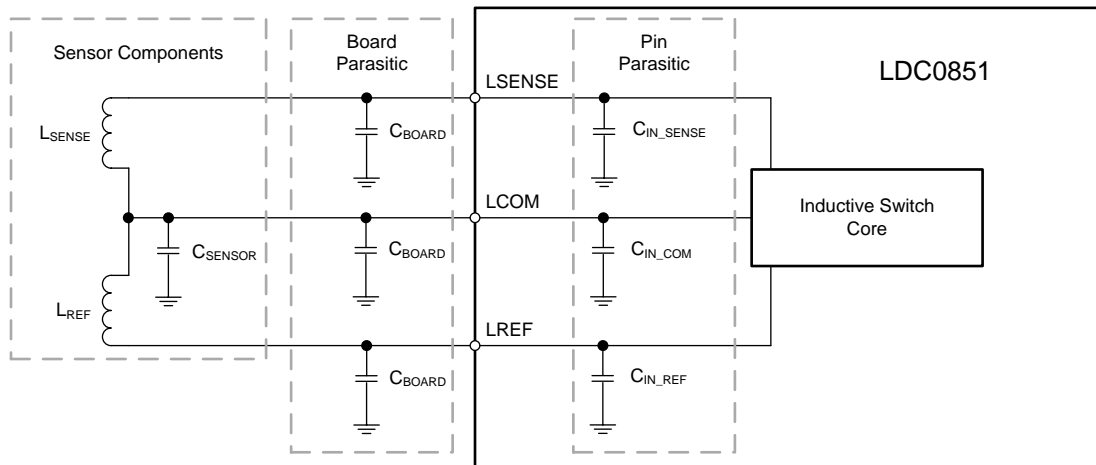

Figure 25. Sensor Components, Board Parasitics, and Package Parasitics Diagram
- $C_{BOARD}$  is the parasitic capacitance of the board, see Figure 25
- (3)
- $C_{\text{TOTAL}}$  is sum of external sensor, board parasitic, and pin parasitic capacitances connected to LCOM, refer to Figure 25 (6)